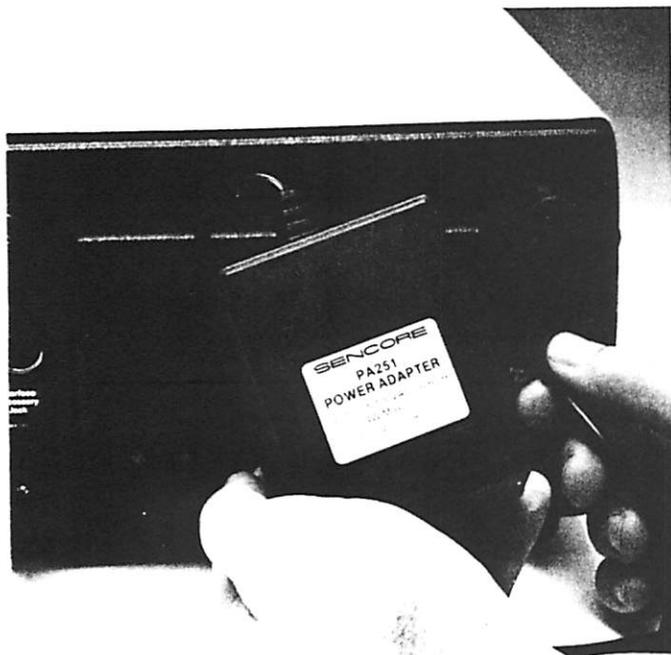

Fig. 6 — Connect the PA251 to the 12 V DC input for AC bench operation and to recharge the optional battery.
For continuous bench operation the LC77 is powered from any standard 105-130V (50-60 Hz) AC line using the PA251 Power Adapter. When 220V AC operation is required, power the LC77 with the optional PA252 220 VAC Power Adapter. Connect the Power Adapter to the POWER IN JACK located on the rear of the LC77, as shown in Figure 6.
2. Connect the power adapter lead to the POWER INPUT JACK on the back of the LC77, as shown in figure 6.